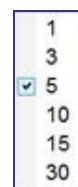

Figure 81. Global angular step size menu
- ① **Global angular step size (Figure 81)** displays a menu of angles by degree: 1, 3, 5, 10, 15, and 30. The default is 5 degrees. The step size applies to the 2D anatomic control windows, the anatomic direction adjustment keys, and the rotation deflection keys.